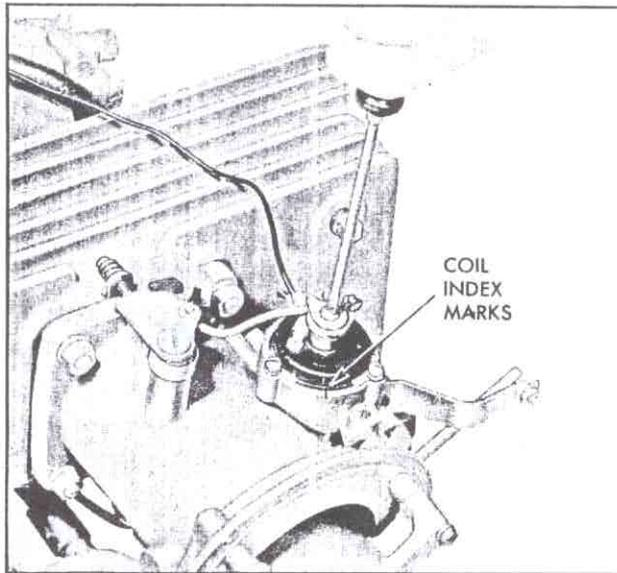

Fig. 174—Adjusting Cold Enrichment Rod Length
1. Check the thermostatic coil position. Properly installed, the stat housing should be indexed $1\frac{1}{2}$ notches rich (fig. 174).